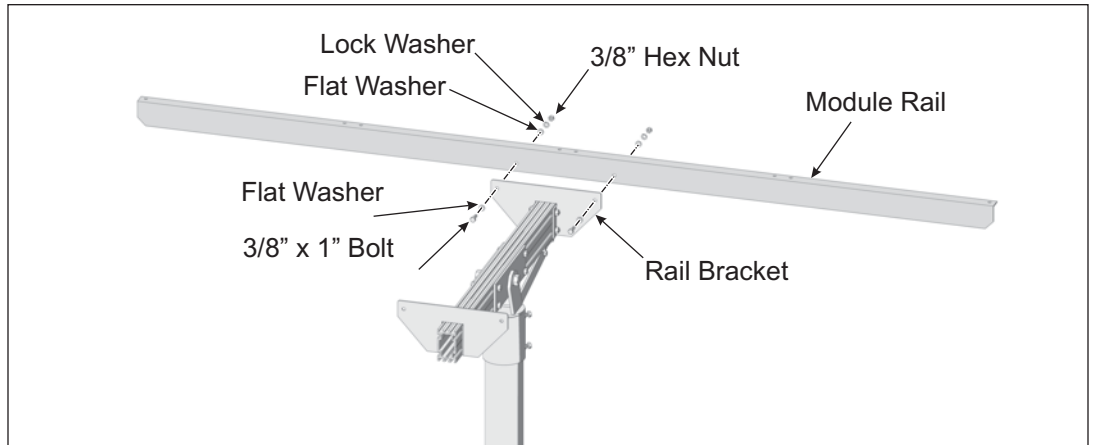

Figure 3-2: Installing Module Rails to Rail Brackets
- A. Referring to Figure 3-1 for orientation of the Module Rails, position the Module Rail on the Rail Bracket. Align the Module Rail mounting holes with the holes of the Rail Bracket and secure with 3/8" x 1" bolts and hardware. Finger-tighten for now. (See also Figure 3-2)